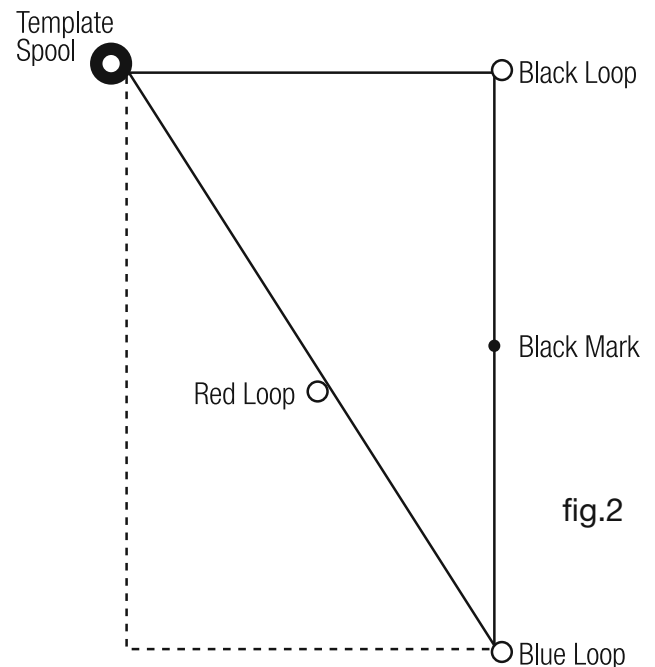

fig.2
See fig.2
5. Remove the RED loop from the marking stake. Pull the BLUE loop to the last open corner until a new right triangle is formed. Drive a plastic marking stake through the BLUE loop and at the BLACK MARK. See fig.2